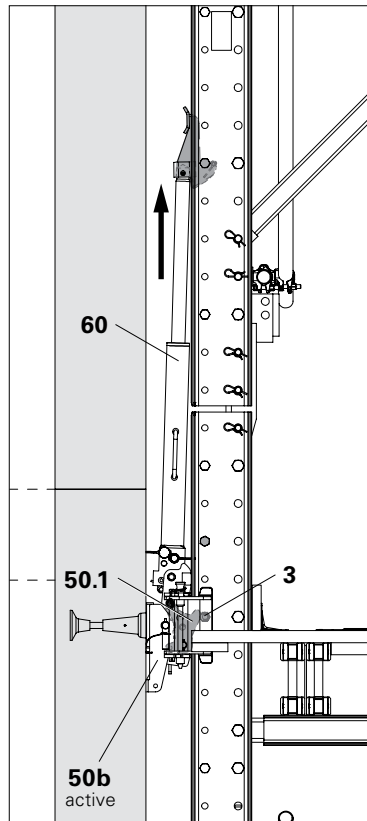

Fig. D7.07
2. Climbing pawl (**50.1**) in the Climbing Shoe (**50b**) is pressed inwards by the Spacer when climbing past, then folded out again by means of the spring force (audible click). (Fig. D7.07 + D7.08)